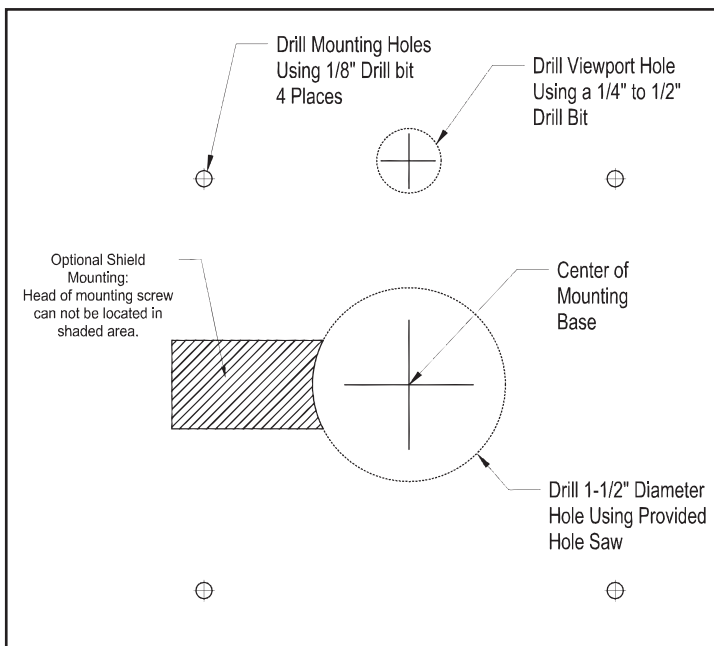

Figure 3
3. Drill 1/8" diameter mounting holes at positions indicated on template. (See Figure 3)
4. Cut out the large opening (1 1/2" hole) on the template. (See Figure 3)
5. Using a 1/4" to 1/2" drill bit, drill a viewport hole as indicated on the template. (See Figure 3)
8. Attach the UV-Aire mounting base onto the plenum with the supplied sheet metal screws. (Refer to template shown in Figure 3) **This must be tight in order to activate the built in safety switch.**